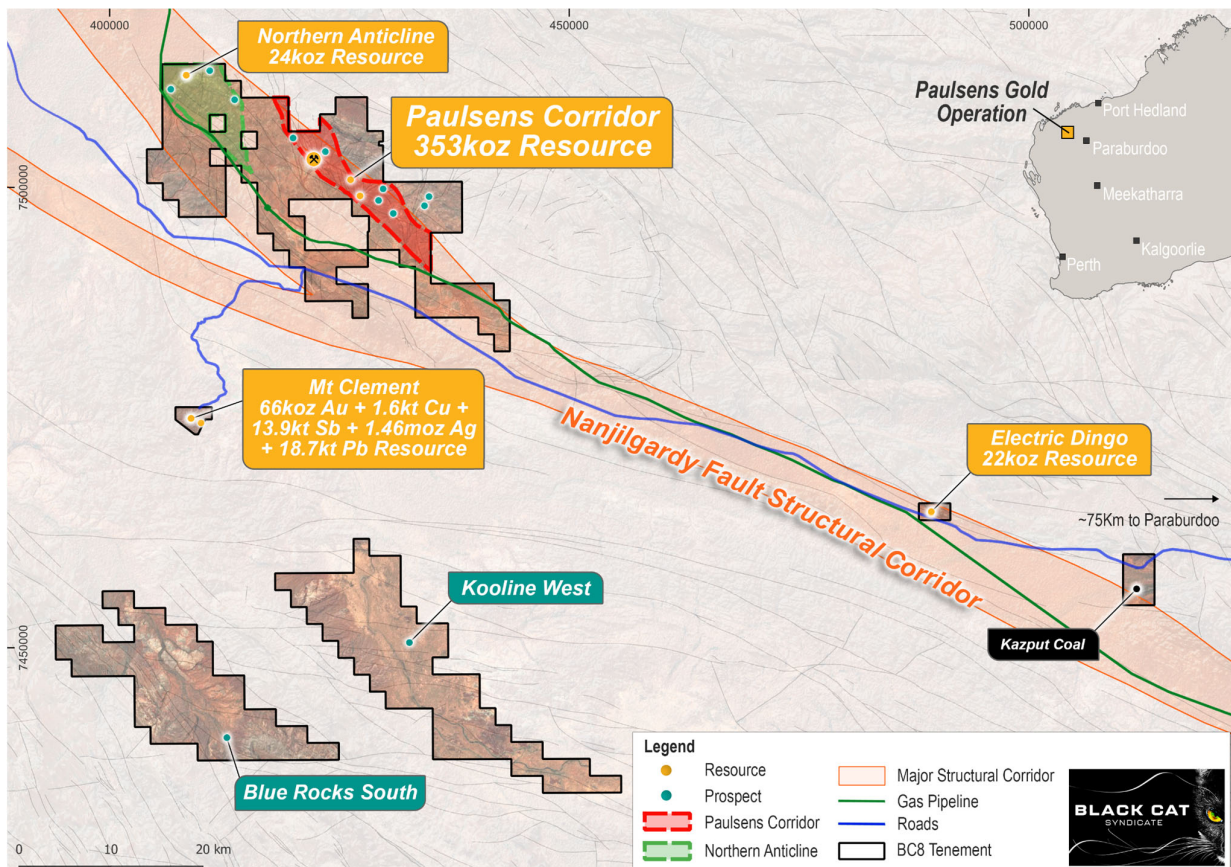

Figure 1: Regional map of the Paulsens Gold Operation showing the location of Resources and large-scale fault architecture.
- Paulsens is an under-explored orogenic gold region with four main prospect areas – the 15km long Paulsens Structural Corridor ("PSC"), the Northern Anticline, Mt Clement and Electric Dingo (Figure 1).